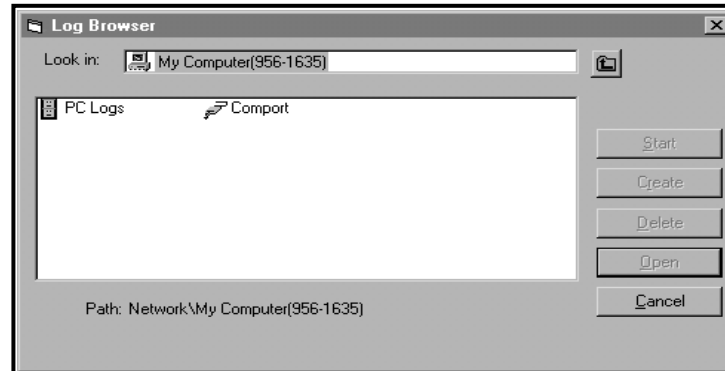

Figure 15: Log Type Selection
2. Double click on the *computer name* to advance to the dialog box shown in *Figure 15* on page 57.